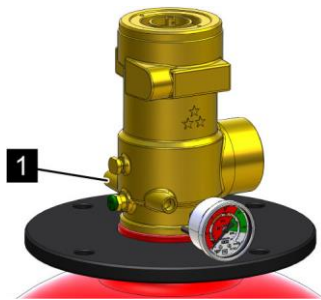

Fig. 152: Connect the pressure measuring device
20. ➡ Connect the pressure measuring device to a free pressure gauge connection (Fig. 152/1) and check the system pressure.